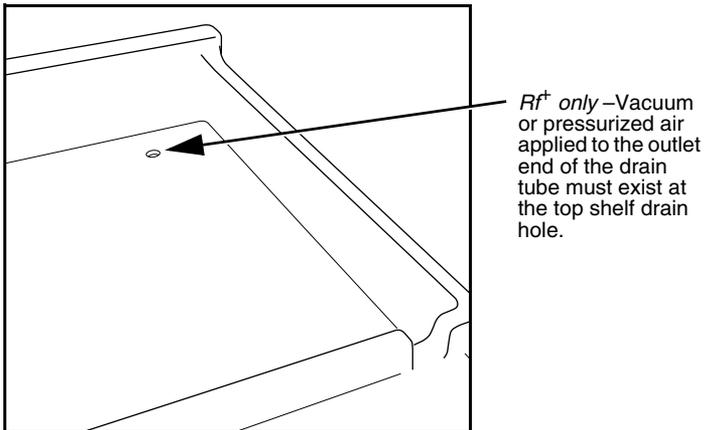

Figure 2-6 Top Shelf Drain
2. (Rf⁺ only) Test the top shelf drain by connecting a vacuum or air supply source to the outlet end of the drain tube. Then, verify the presence of such vacuum or air supply source on the drain (Figure 2-6).